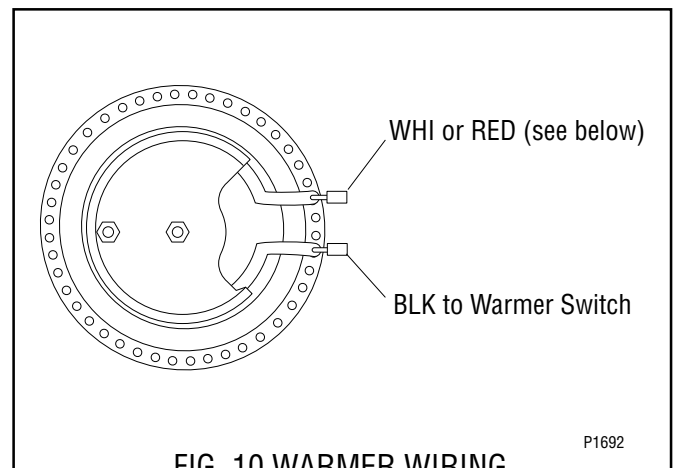

FIG. 10 WARMER WIRING
- Refer to FIG. 10 when reconnecting the wires.